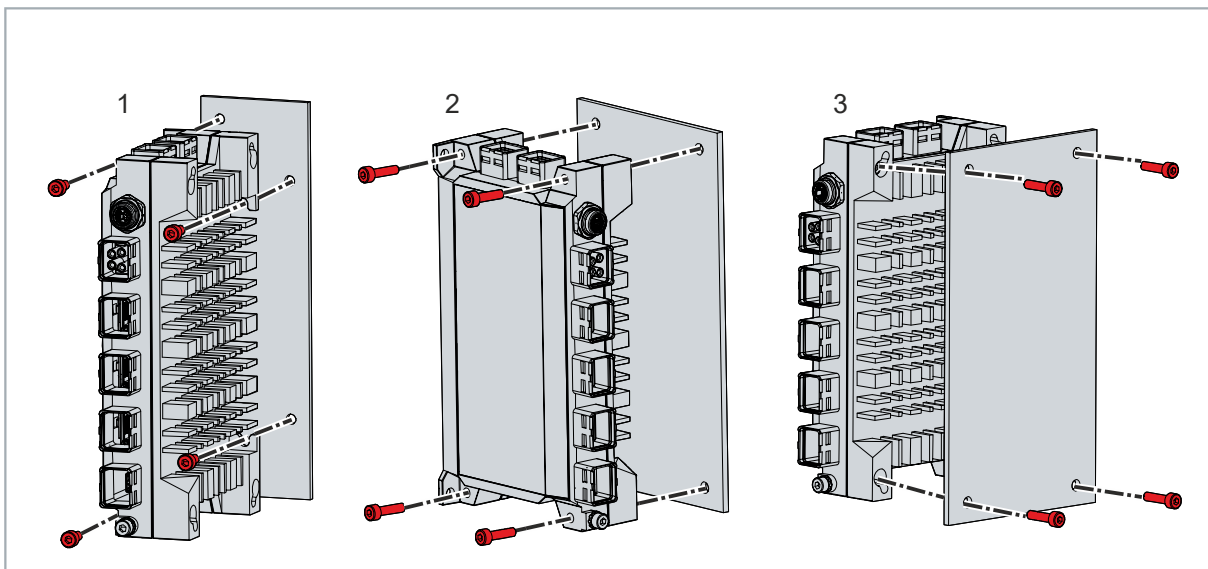

Fig. 14: Mounting with mounting concept
M4 screws are required to secure the device via the rear panel (1). When fastening via the right-hand side panel, you can insert the screws from two sides. Insert M4 screws via the left-hand side of the device (2). Insert M5 screws via the right-hand side of the device (3) (see Fig. 14).